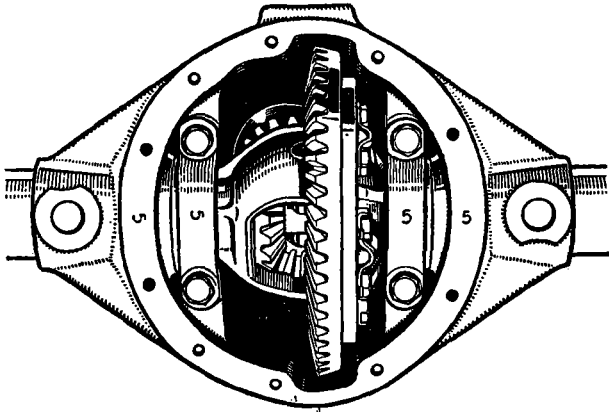

Fig. 18. Differential bearing cap markings.
- (8a) Install the differential bearing caps, taking care to ensure that the position of the numerals marked on the gear carrier housing face and the caps correspond, as indicated in Fig. 18. Finally tighten the bolts securing the bearing caps.
- (9) When refitting the bearing caps, be sure that the position of the numerals marked on the gear carrier housing face and the caps correspond as indicated in Fig. 18. Tighten the caps lightly, remove the stretching fixture, then finally tighten the bolts securing the bearing caps. Then continue with operation (10).